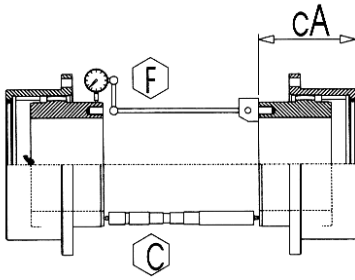
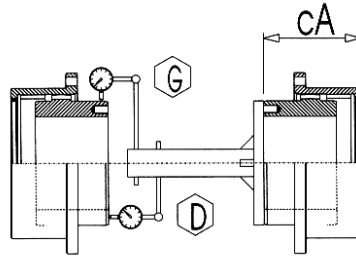
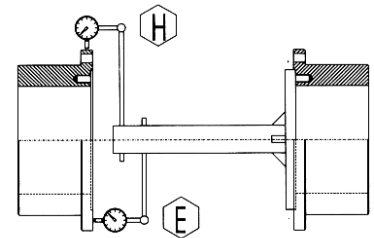

Fig.03
Fig.04
Fig.05
H.2 Determine the angular misalignment value by processing, according to what prescribed in the scheme below, the head parallelism between the reference face surfaces of the two hubs. For gear couplings with tubular spacer or with floating shaft, check the head parallelism between the hub reference surfaces, by employing an inside micrometer positioned like **C** in Fig. 03 or a comparator positioned like **D** in Fig. 04 or like **E** in Fig. 05. The max difference between two values at 180° is ΔA .
Determine the parallel misalignment value by processing, according to what prescribed, the mutual eccentricity between the reference diameters of the two hubs. A comparator, positioned like **F** in Fig. 03, **G** in Fig. 04 or **H** in Fig. 05, shall measure the hub eccentricity. The spacer couplings, having a long distance between gear teeth, require less alignment accuracy than the standard gear couplings. In any case, verify that the checking unit, in a 360° rotation, does not have any clearance, then measure the min. and max eccentricity. The max difference is ΔP .